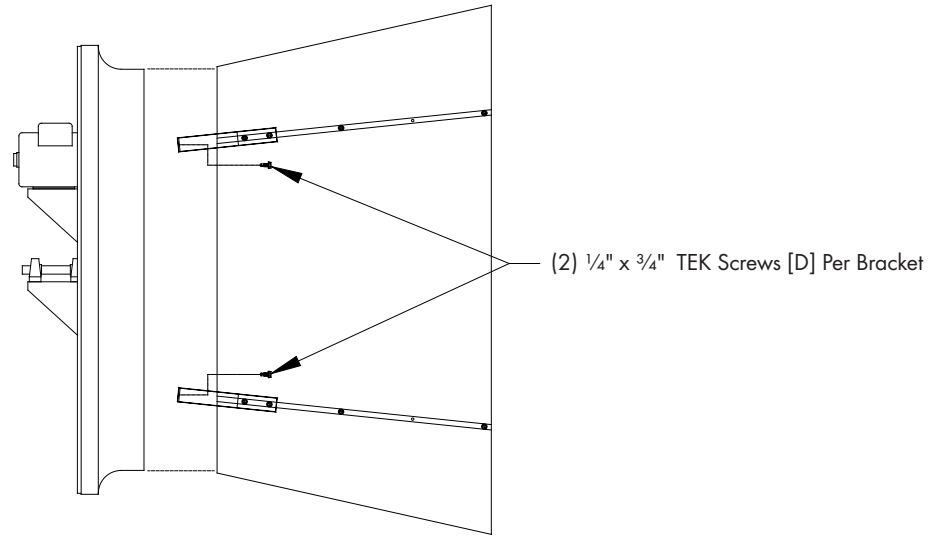

Figure 3
Install cone on fan. Two people are usually required to do this. Cone should slide over fan outlet approximately 1 1/2". After cone is on fan, secure it with (2) TEK Screws [D] through each support bracket. See Figure 3.